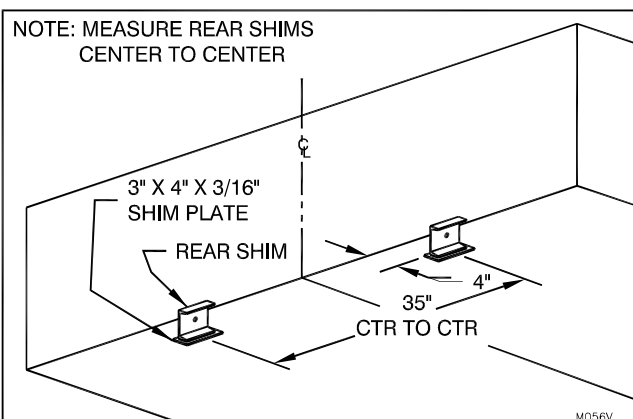

Figure 19: Rear Shim Location (4" High Rear Shim Shown)
3. ___ Place the two rear shims with welded-on shim plate at the rear of the pit, 35” center to center and 4” from the rear pit wall. (“Figure 19: Rear Shim Location(4” High Rear Shim Shown)” on page 13)